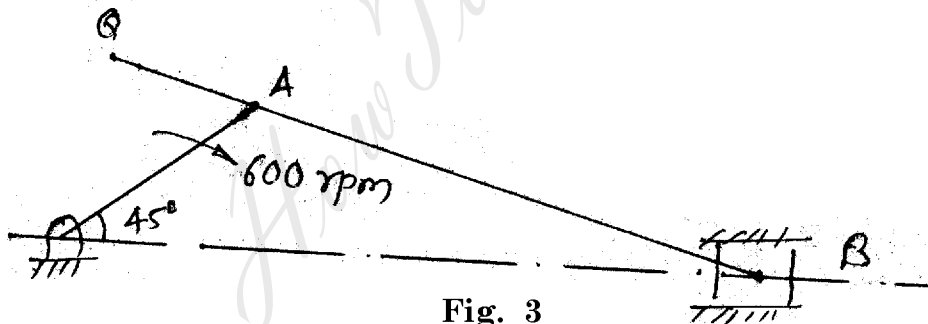

Fig. 3
- 3 Figure 3 shows a slider crank mechanism. By polygon 15